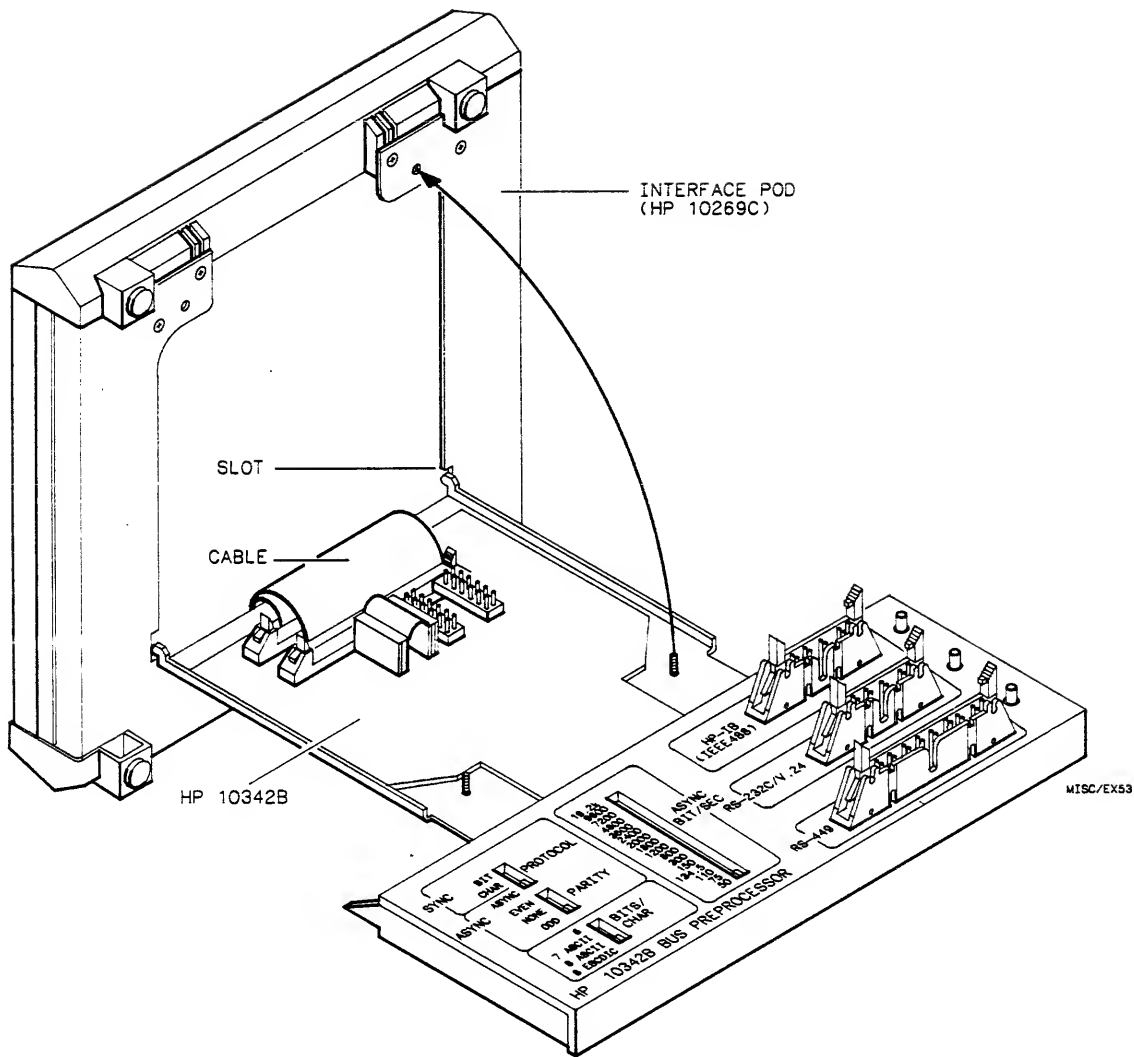

Figure 5-3. Installing the HP 10342B in the HP 10269C
1. Once all the connections are made, install the HP 10342B on the bottom of the HP 10269C (see figure 5-3).